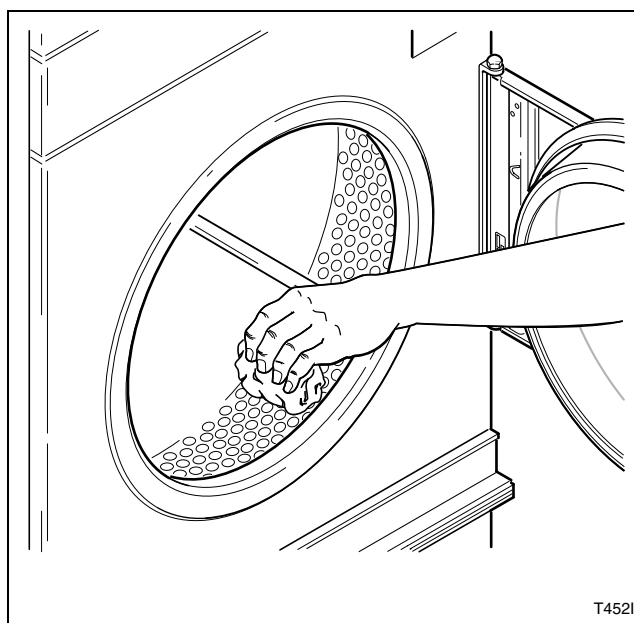

Figure 4
10. Wipe out the cylinder using an all-purpose cleaner or detergent and water solution. Refer to *Figure 4*.